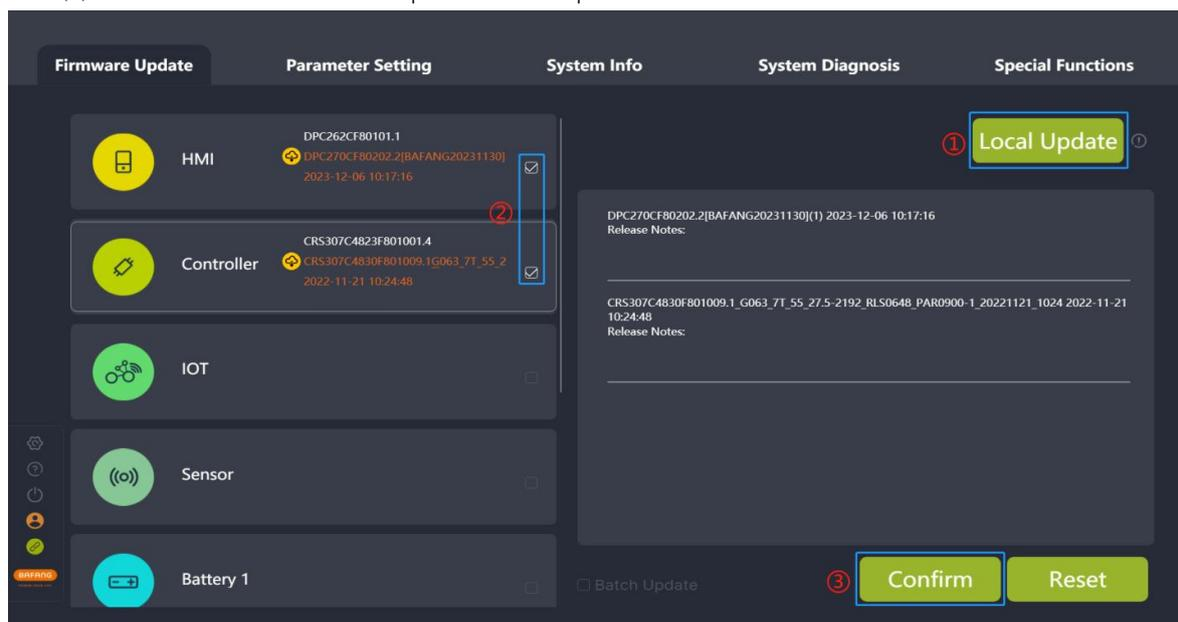

Fig. 4-13 Local update
- (1) **Local update:** Click "Local Update". After selecting multiple firmwares to be updated from the local area, check the components to be updated (Fig.4-13).